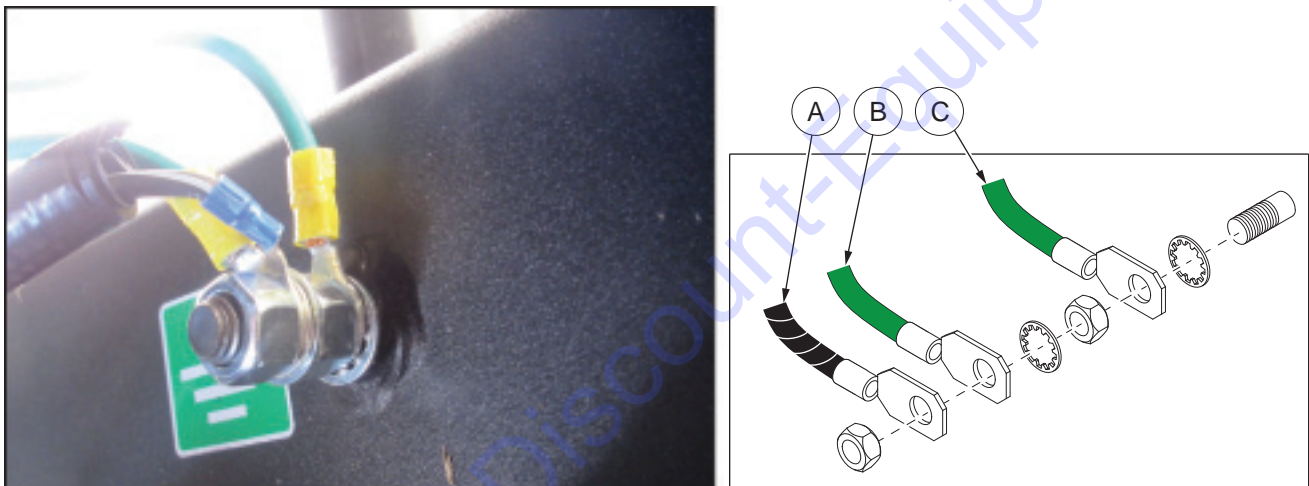

Figure 34 - Chassis Ground Stud
14. See Figure 34. Connect ground wires to ground stud in unit chassis, as shown.